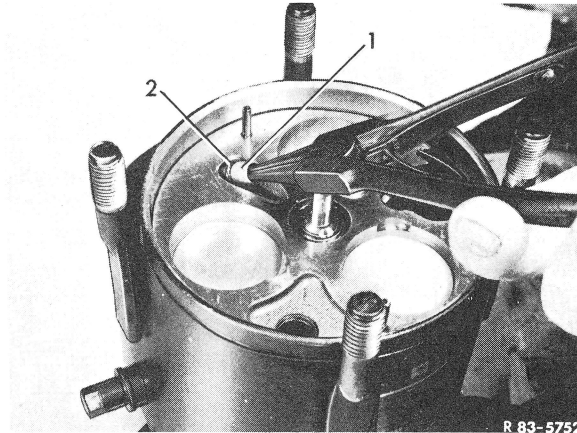

Figure 4 Removing oil intake pipe
**13** Remove oil intake pipe (1) and take sealing ring from oil inlet (Fig. 4).
**32** Lubricate oil intake pipe with refrigeration oil and install, rotating compressor mechanism until the oil intake pipe (1) is in alignment with hole in housing (Fig. 4).